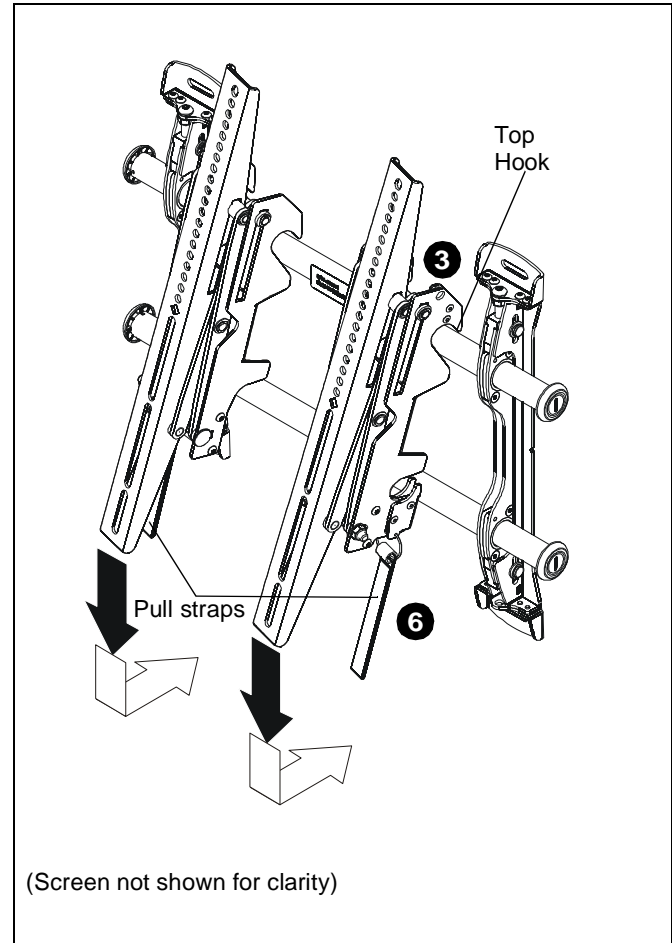

Figure 12
- Hang top hook of interface brackets (U and V) onto the top bar of the mount (R). (See Figure 12)
- Pull downward on the pull straps and swing inward toward wall, latching interface brackets to lower bar and locking bottom of screen to the mount. (See Figure 12)